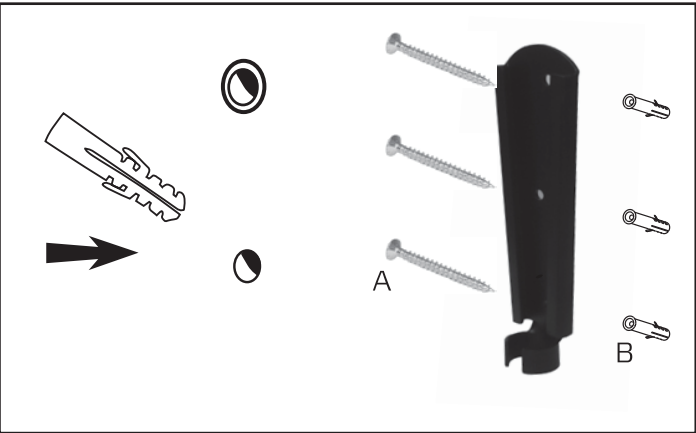

Figure 2- Insert masonry anchors and attach wall plate to wall
3. Fully insert masonry anchors (B). Tap in with hammer if required. See Figure 2.
4. Attach wall plate by inserting coach screws (A) into each masonry anchor (B) and tighten. Do not over tighten. See Figure 2 .